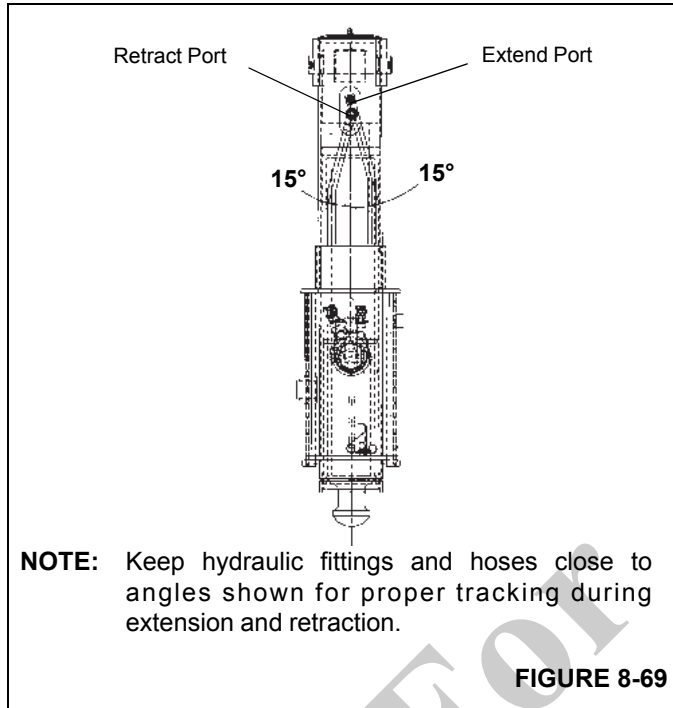

FIGURE 8-69
**NOTE:** Keep hydraulic fittings and hoses close to angles shown for proper tracking during extension and retraction (see Figure 8-69).